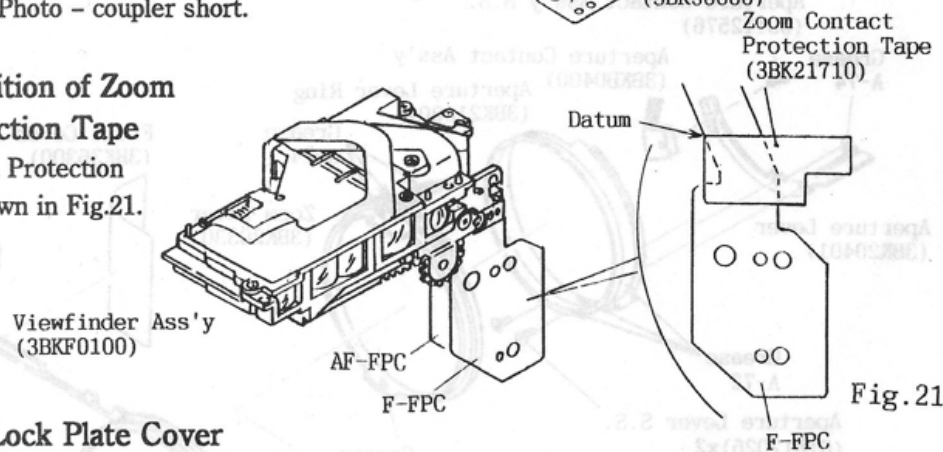

Fig.21
- 1) Attach the Zoom Contact Protection Tape (3BK21710) as shown in Fig.21.